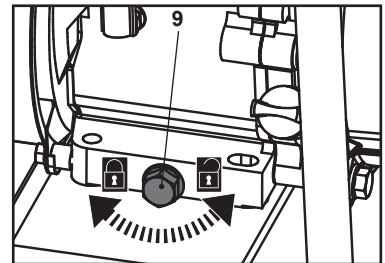

Fig. 16
- Loosen and remove the engine oil drain screw (9) to empty the engine oil into a suitable container. (Fig. 16).
- Screw the engine oil drain screw (9) back in and tighten it.